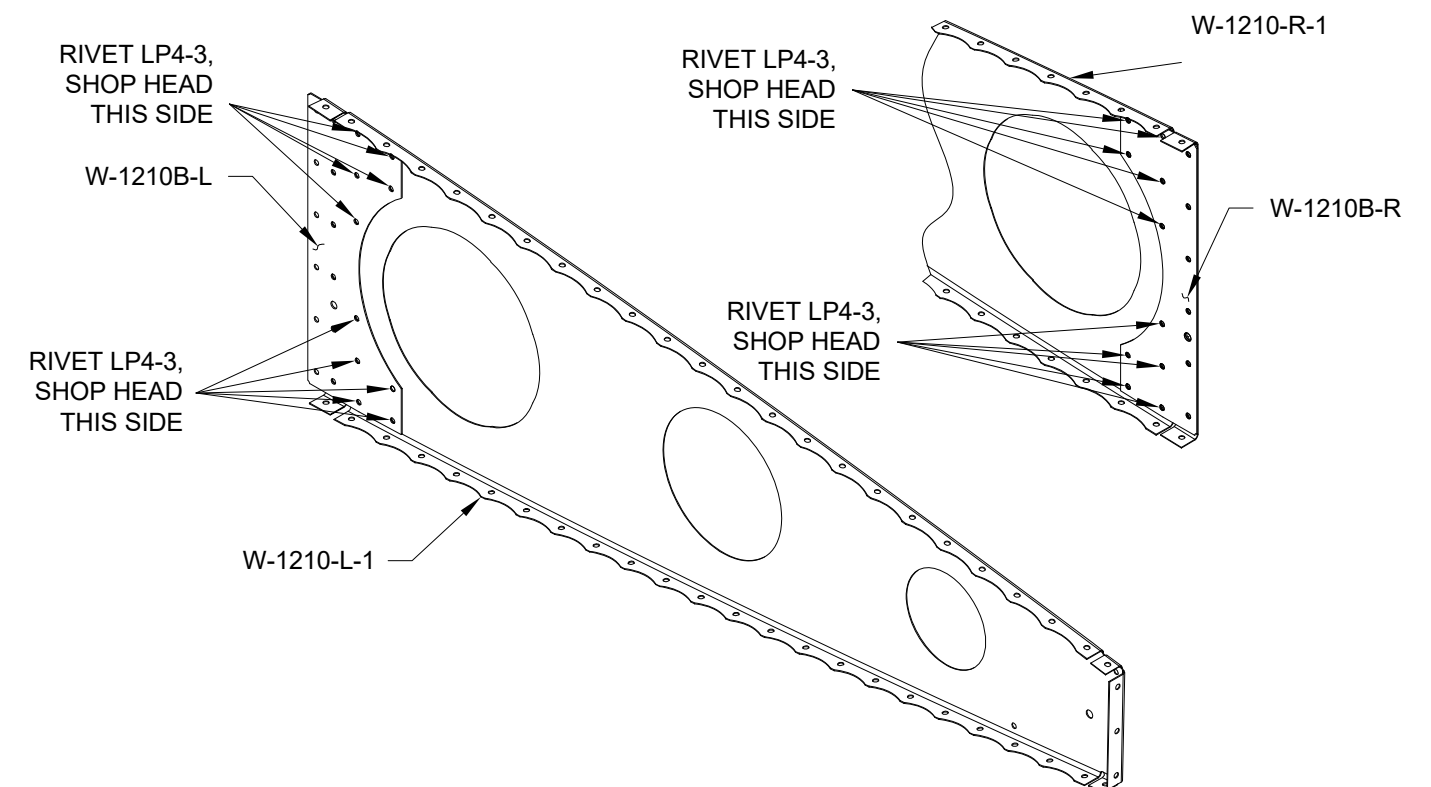

FIGURE 4: RIVETING THE RIB DOUBLERS TO THE MAIN RIBS
Step 8: Rivet the W-1210B-L Rib Doubler to the match-drilled W-1210-L-1 Main Rib as shown in Figure 4.
Step 9: Rivet the W-1210B-R Rib Doubler to the match-drilled W-1210-R-1 Main Rib as shown in Figure 4.